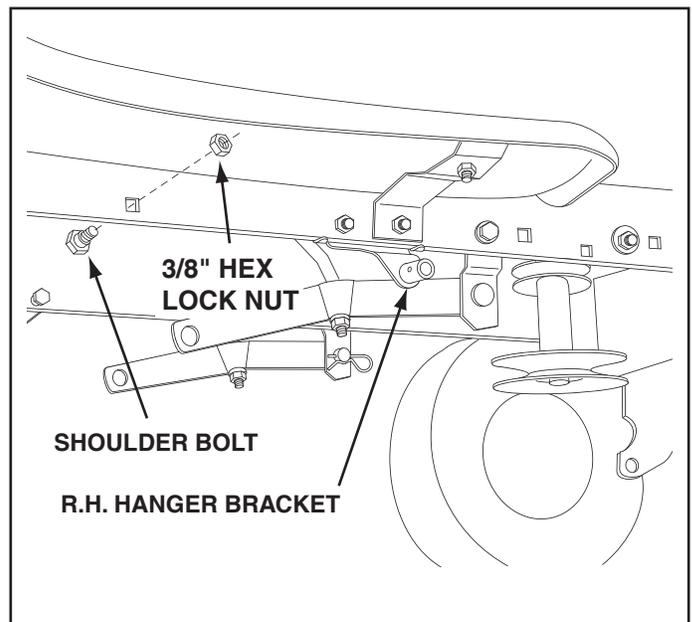

FIGURE 10 RIGHT SIDE VIEW
2. Assemble a shoulder bolt and 3/8" hex lock nut to the R.H. side of the tractor frame, using the first empty hole to the rear of the R.H. hanger bracket. See figure 10.